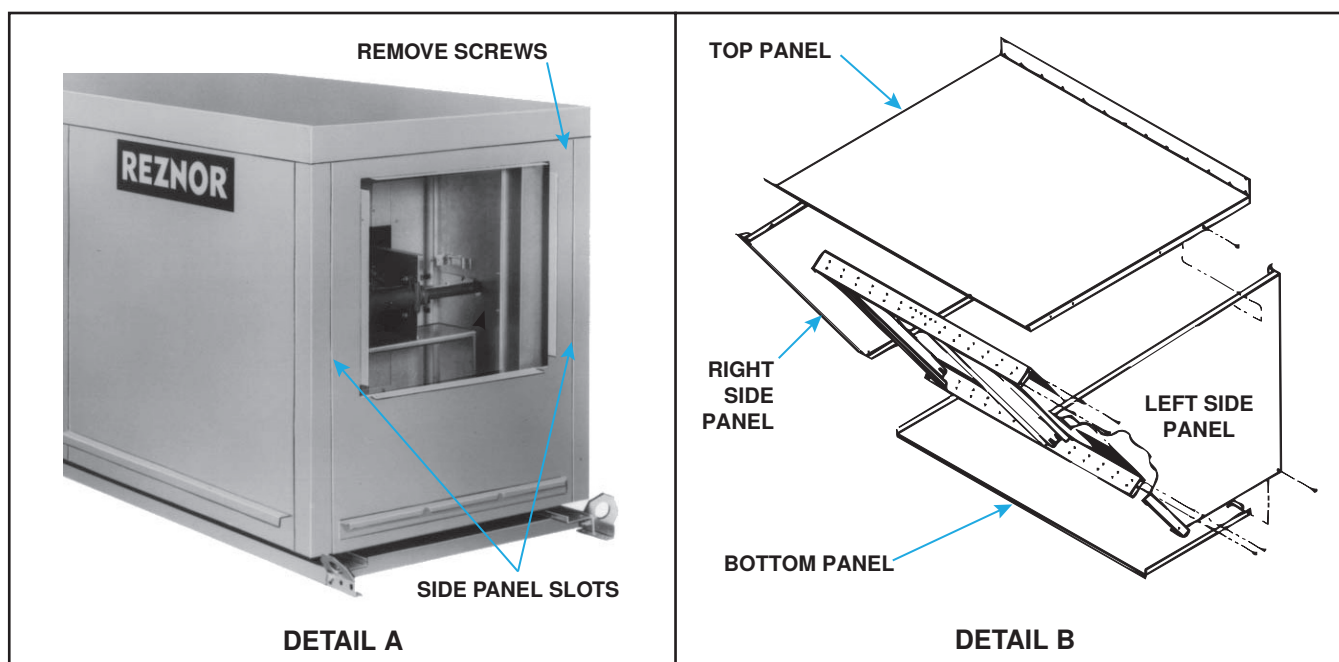

Figure 2. Outside Air Hood Installation
- a. On inlet air end of cabinet, remove and save row of factory-installed screws (see Figure 2, DETAIL A) that secure cabinet top panel.
- b. Slide air hood top panel (see Figure 2, DETAIL B) under edge of cabinet top panel—edge of air hood top panel must be between cabinet top and end panel—and secure using screws removed in step 2a.
- a. Slide right side panel (see Figure 2, DETAIL B) into slot (see Figure 2, DETAIL A) between cabinet end panel and right corner leg—ensure that side panel is under and inside of air hood top panel—and secure using sheet metal screws.
- b. Repeat step 3a to install left side panel (see Figure 2, DETAIL B).
- a. Position bottom panel (see Figure 2, DETAIL B) so that it is inside of both side panels and above factory-installed support angle. Secure bottom panel to both side panels using sheet metal screws.
- (1) Slightly loosen (do not remove) support angle screws.
- (2) Slide support angle up (holes are slotted) so that it is against bottom panel.
- (3) Tighten support angle screws.